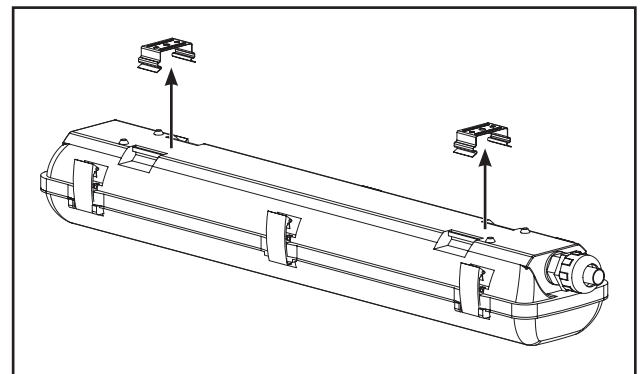

Figure 3.
4. Orient the luminaire so conduit fitting faces incoming supply power or conduit. Align the recesses in luminaire body with mounting clips and apply gentle upward pressure to secure luminaire onto both mounting clips. (Figure 3)